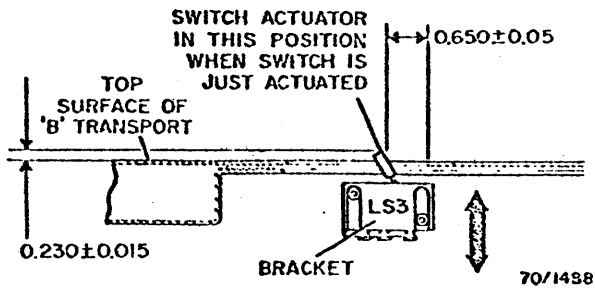

Fig. 3-132. Mispuff Detector Switch (LS3) Adjustment
1. Loosen screws and position switch as shown in Fig. 3-132.